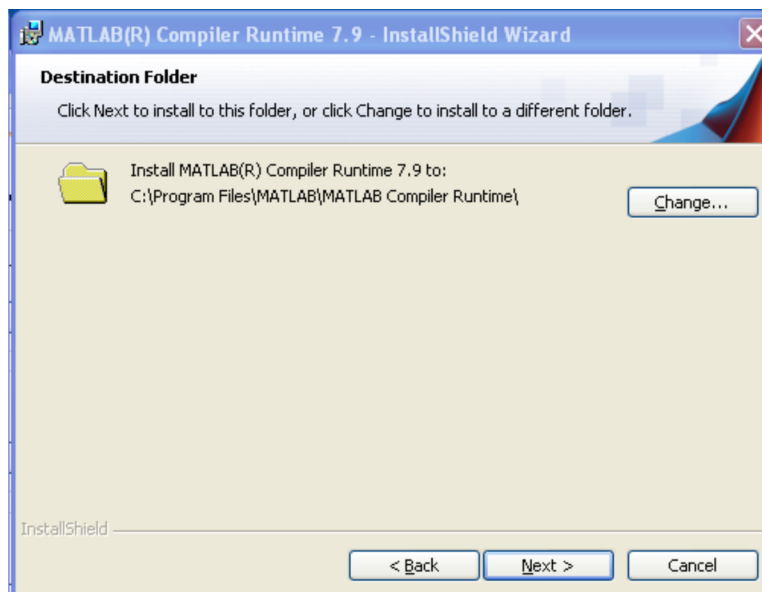

Figure 5. MCR GUI, Specifying Install Location
3. Specify where you want to install the MCR library, as shown in Figure 5. Click *Next* to continue.